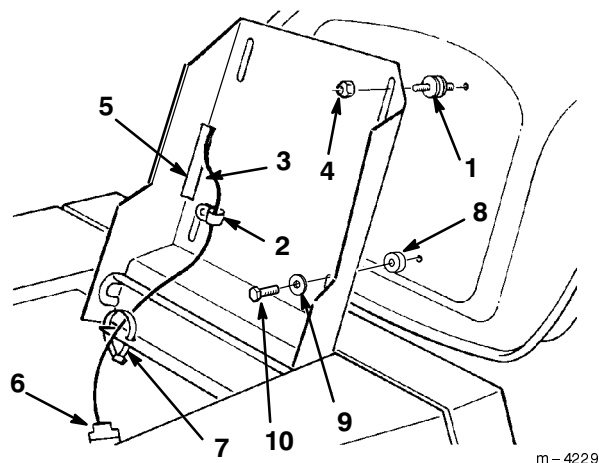

Figure 2
1. Thread 2 seat spacers (rubber) into the bottom of the seat (Fig. 2) in the rear holes.
2. Position the seat onto the seat base, inserting the seat switch cable through the slot and the spacer studs through the rear mounting holes (Fig. 2). Secure them loosely with 2 locknuts (5/16 in.).
3. Slide the clamp over the seat switch wire (Fig. 2).
4. Install 2 metal spacers in line with the front holes. Insert a screw (5/16 x 1-1/2 in.) screw through the clamp and a flat washer (5/16 in.). Insert this screw through the seat bracket and spacer into the left front seat hole (Fig. 2). Install another screw (5/16 x 1-1/2 in.) with a flat washer into the right front seat hole.